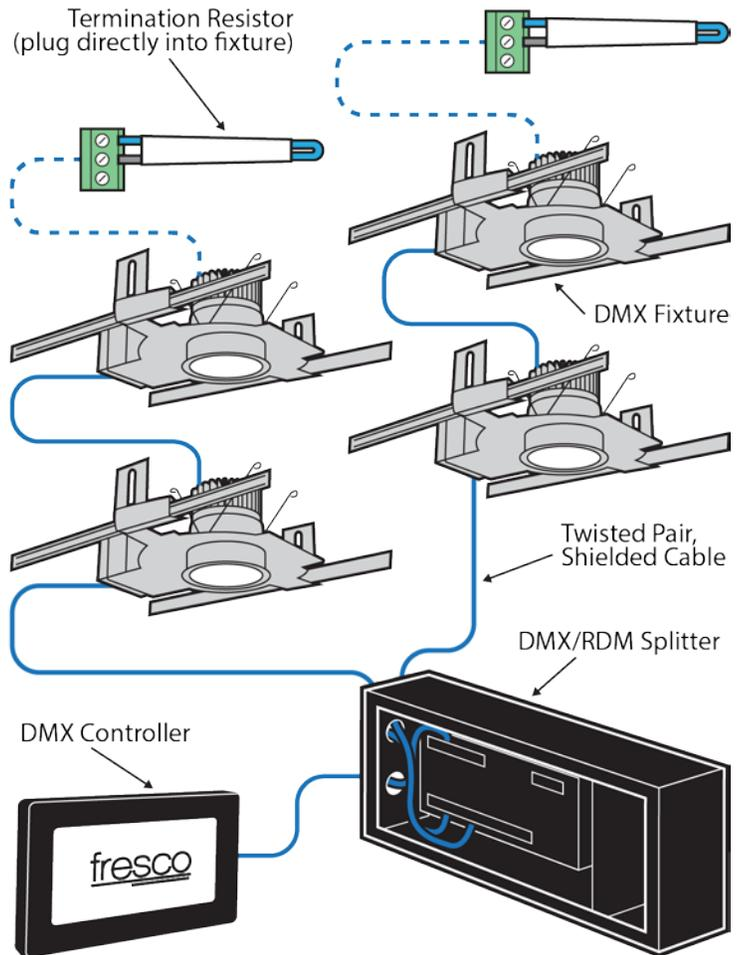

Figure 1. DMX network featuring one universe splitting into two runs of up to 30 fixtures each
1. Determine system layout. A DMX/RDM splitter is required for >30 fixtures or if star configuration is desired. See Figure 1 for an example system layout.